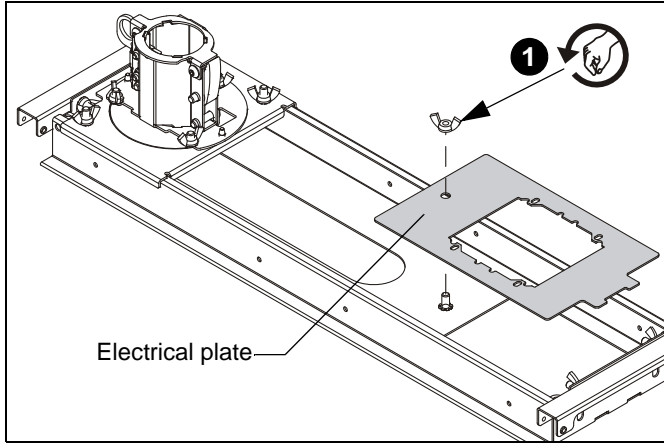

Figure 6
1. Remove outlet plate from suspended ceiling plate assembly (R) if electrical outlet will be installed (See Figure 6), and install UL Listed Raco 256, 232 or equivalent UL Listed electrical box (not included) to SYSAU outlet plate following instructions included with electrical box.